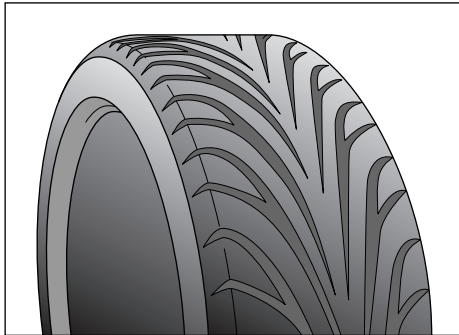

Figure 5-2:
- ✔ Toyo T1-S (see Figure 5-2)